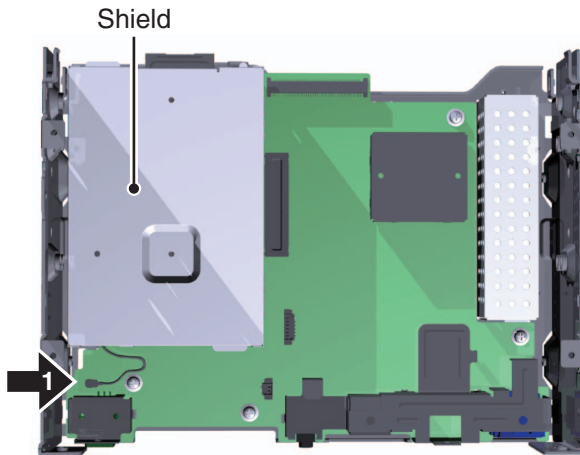

Fig.16
● Removing the CC Unit (Fig.16, 17)
- ➔ 1 Disconnect the Cord Assy using GGF1539.(Fig.16)
Remove the Shield.(Fig.16)